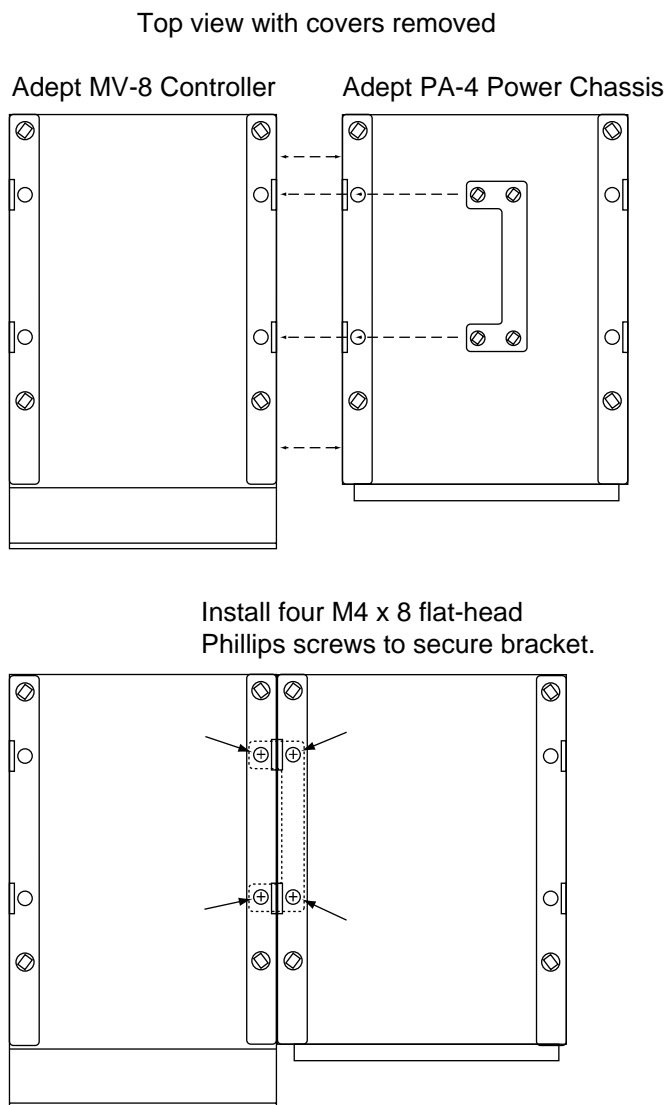

Figure 2-8. Joining the Power Chassis and Controller at the Top
1. Turn off power to each unit and disconnect the power cord. Place the two units next to each other. Remove the top cover from both. See Figure 2-8